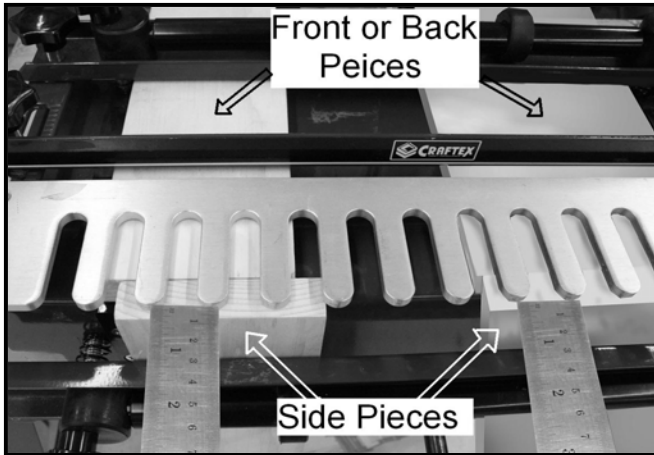

Figure-8 Shows checking the template to make sure it is parallel to the top of the vertical pieces. The inside faces are showing.
2. For pieces that are less than 7/8" thick, slide the template so the front edge of the template fingers are 1/8" back from the top edge of the vertical piece. See Figure-8. For side pieces thicker than 7/8", add 1/8" to the amount that the board exceeds 7/8". Then, set the front edge of the template fingers back from the edge by that sum. See Figure-8.
Ensure that the front edge of the template is parallel to the edge of the vertical work-piece. To maintain a high degree of accuracy when adjusting the template, measure at one end of the jig then measure at the other end. Make adjustments to the template and re-measure both positions. To measure at both ends of the jig, try shifting the vertical piece to the other end of the jig or clamp two pieces at each end of the jig as shown in Figure-8. It is not necessary to simultaneously measure with two rulers. The two rulers only represent two measurement locations.